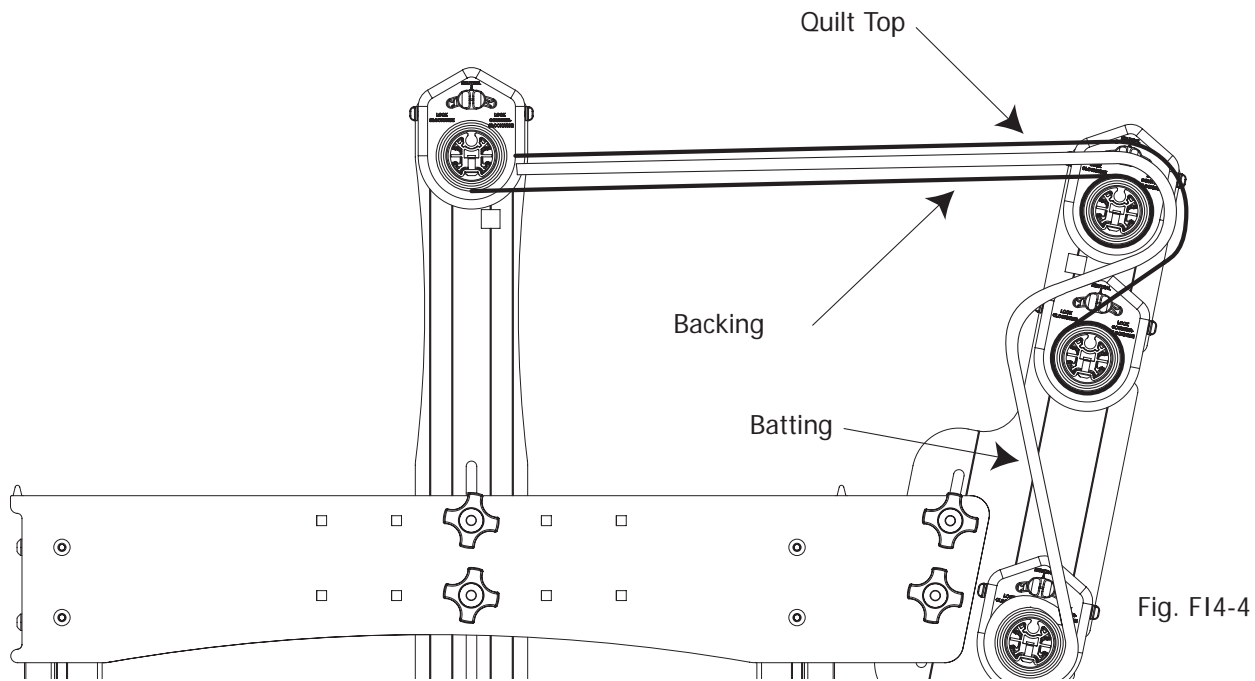

Fig. F14-4
Step 4: Attaching Quilt Layers to the Take-Up Rail (See Fig. F14-4).